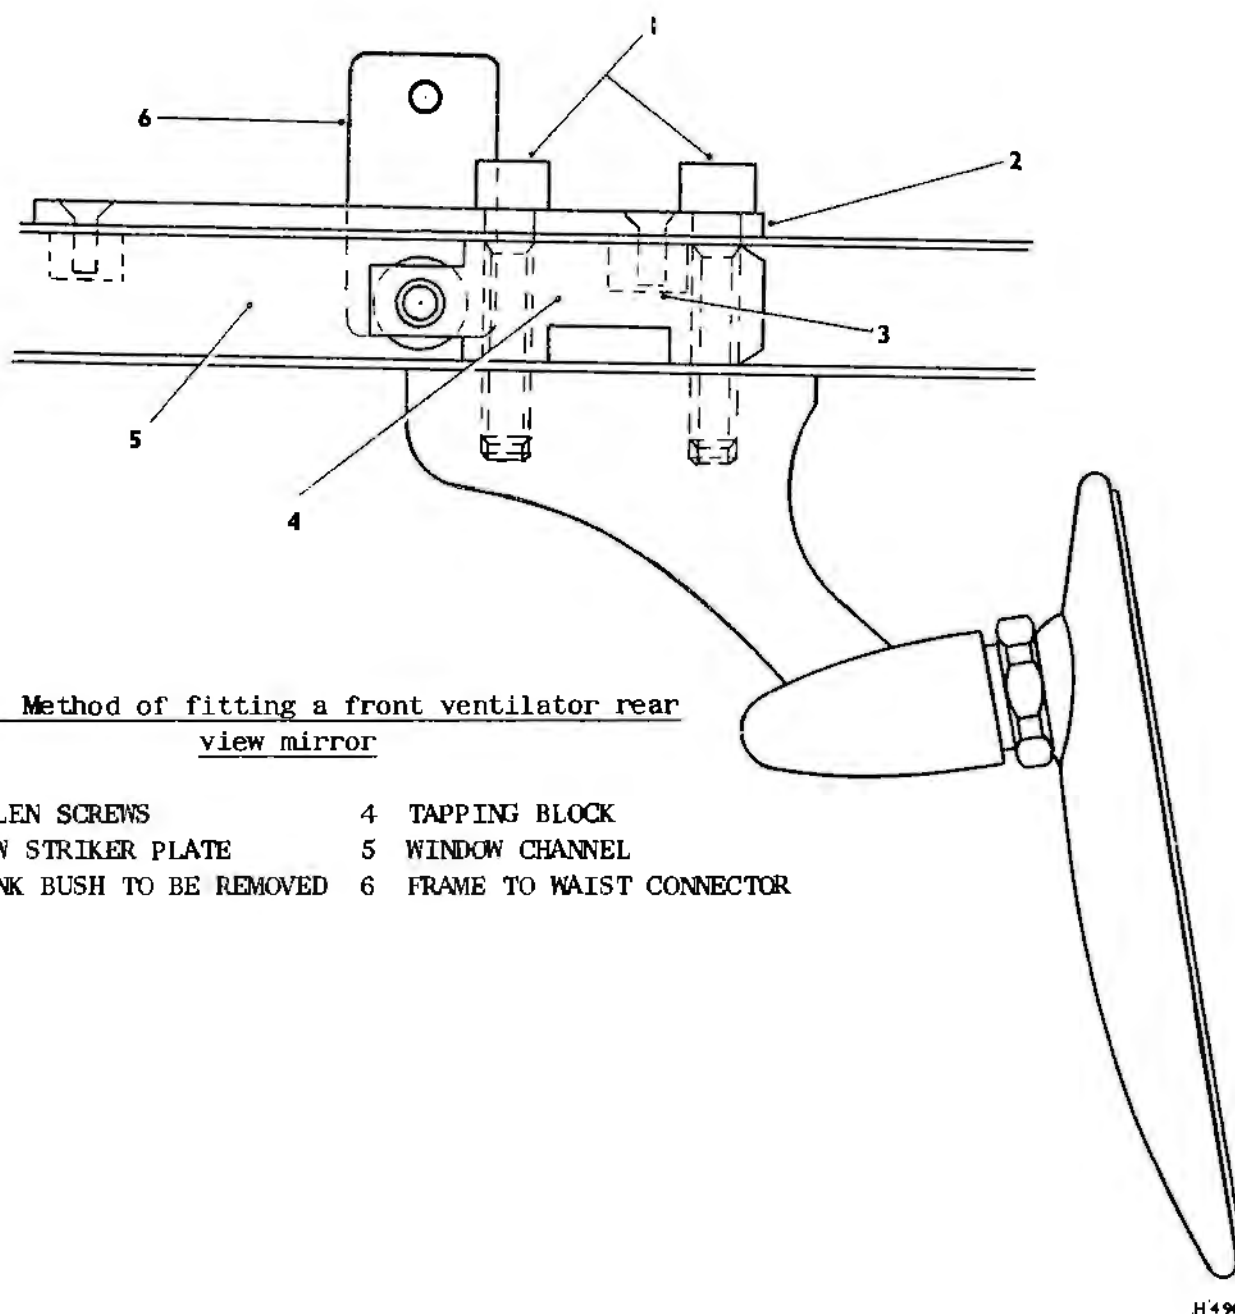

Fig.1 Method of fitting a front ventilator rear
7. Drill out and remove the rear hank bush (see Fig.1).
8. Position the tapping block in the channel and refit the frame to waist connector; the two assemblies are located by a new setscrew which passes through the connector and channel frame and screws into the front (under-side) of the tapping block (see Fig.1).